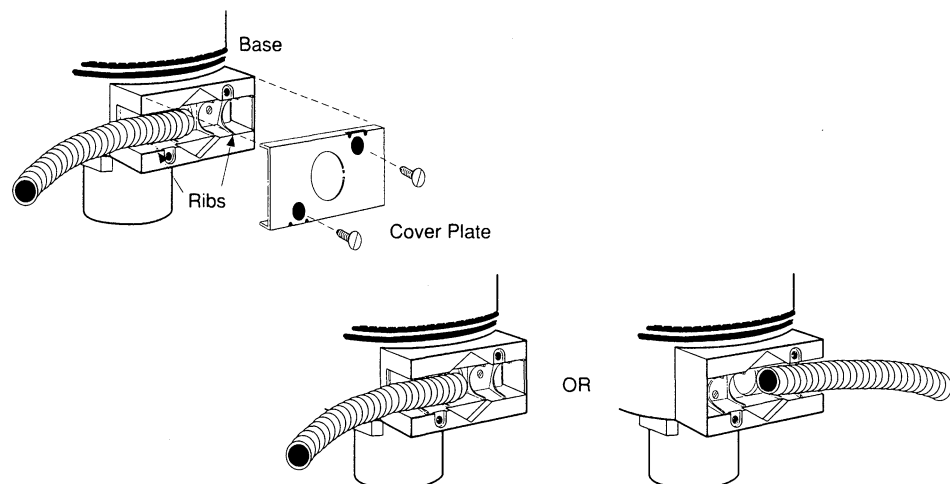

Figure-8 Flexible Conduit Installation to Either Side of Actuator.
4. Slip conduit on the base over shoulder. See Figure-8.